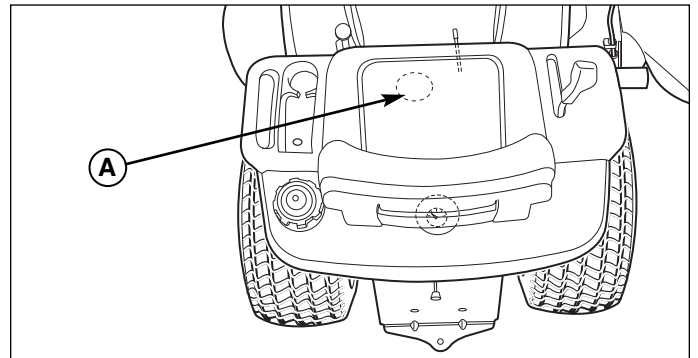

**Figure 36. Internal Transmission Filter Service**
5. Remove and replace the internal transmission filter (B, Figure 36).
6. Reinstall the filter access cap (A, Figure 36) and the two 14mm drain plugs (A, Figure 37).